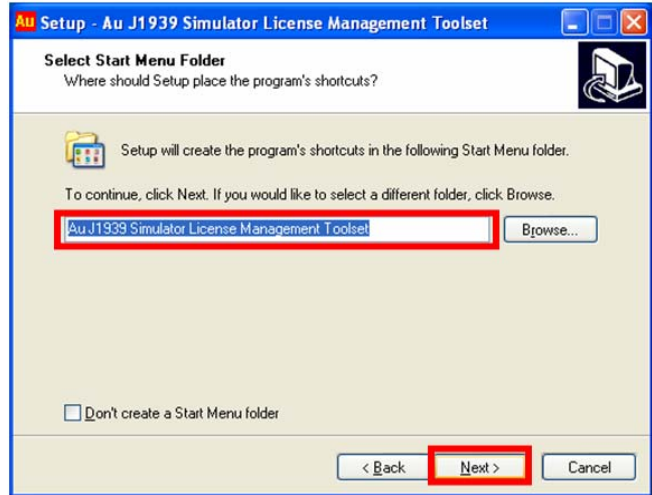

Figure B-5
5. "Select Start Menu Folder" window shows up, use default setting "AU J1939 Simulator License Management Toolset", then click "next" (Figure B-5)